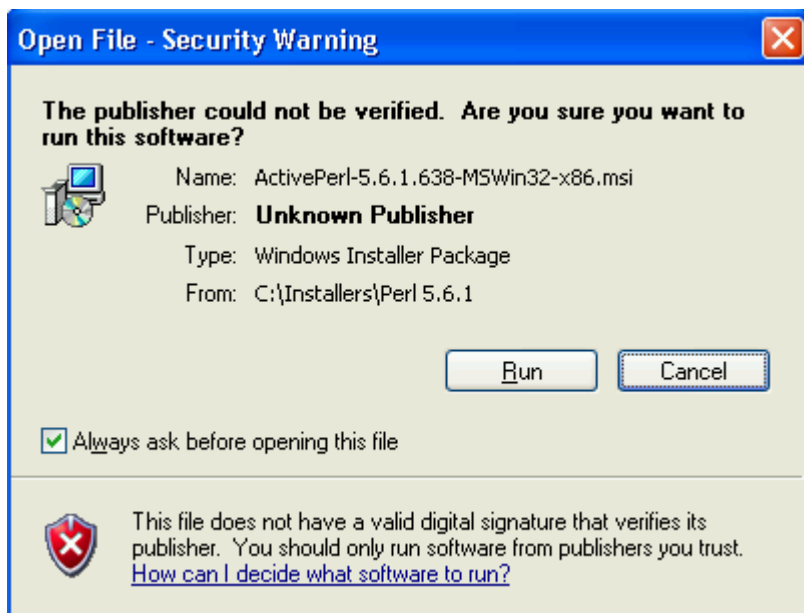

Figure 11-18 Open file dialog
4. At the security warning, select RUN (Figure 11-18).